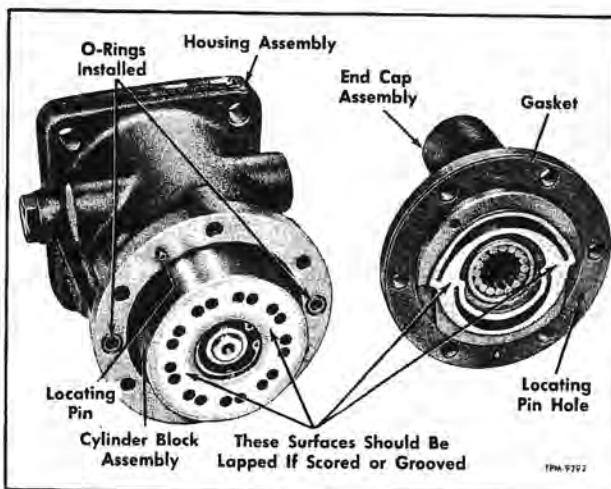
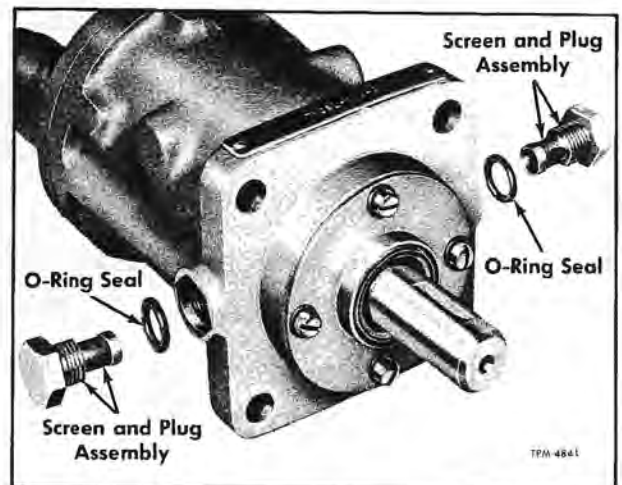

Figure 53—Motor End Cap Assembly Removed
Figure 54—Motor Oil Strainer Plugs and Screens Removed
1. Place motor with shaft downward in a vise, then remove six screws (2) (using 3/16" hex-wrench) which attach end cap assembly (1) to motor housing (4). Carefully lift end cap from motor housing. DO NOT SCUFF OR DAMAGE SEALING SURFACES OF CAP OR CYLINDER BLOCK. Figure 53 shows end cap assembly separated from housing.
2. Remove end cap gasket (3) and two small O-rings from recesses in housing at fluid passages. See figure 53 which shows rings installed.
4. Using a Tru-Arc pliers, remove retainer ring (18) and tension spring (17) from cylinder block.
5. Referring to figure 54, remove oil strainer plug and screen assemblies from sides of motor housing.
6. Assemble complete cylinder block assembly into the housing, turning the motor shaft (9) to engage the spline arrangement.
7. Align new gasket (3) onto housing face using holes for line up.
8. Clean and inspect the two small O-rings and insert into recess on housing face (see fig. 53). Check to see if check valve assembly is in place in the outlet part of end cap assembly. Install end cap (1) using guide pin in face of housing for proper line-up.
9. Assemble seal components (8) over shaft and into housing recess as described previously under "Motor Shaft Seal Replacement."
10. Clean oil strainer plug and screen assemblies, then with O-ring on each plug, install plugs in sides of pump housing. See figure 54.